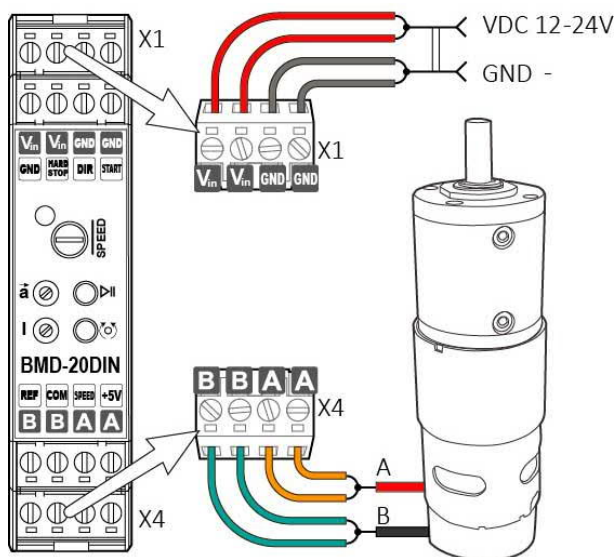

Fig.9. BMD-20DIN ver.2 connection scheme (motor and power supply connection.)
- 2) Connect the motor to the controller terminals A and B. The connection scheme is shown on figure 9.
- 5) Connect power supply to the controller contacts according to the fig.9: "+" of the power supply to the terminal "Vin", "-" of the power supply to the terminal "GND". Wire cross-section should be suitable to the motor current consumption. We recommend using wire cross-section 3 mm2 (AWG-8). Ground the power supply unit.